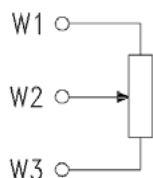

FIG. 1
MVB46P model is supplied with 1 KΩ aux. potentiometer. The potentiometer presents 0 ohm between W3 and W2 and 1000 ohm between W2 and W1, when the actuator is in upper position (see Fig. 1), and a 50 ohm variation for every mm of stroke, increasing between W2 and W3 and decreasing between W2 and W1.
- For MVB52/56 only, make sure that jumper SW2 is in A position (Fig. 1);